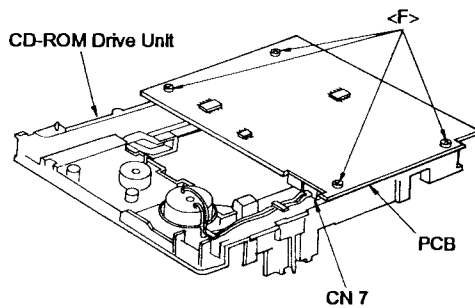

Figure 27
- (3) Turn the CD-ROM Drive Unit as shown in Figure 27.
- (4) Secure the PCB with four screws <F> (2.6 × 8 mm) as shown in Figure 27.
- (5) Connect the connector (CN 7) as shown in Figure 27.